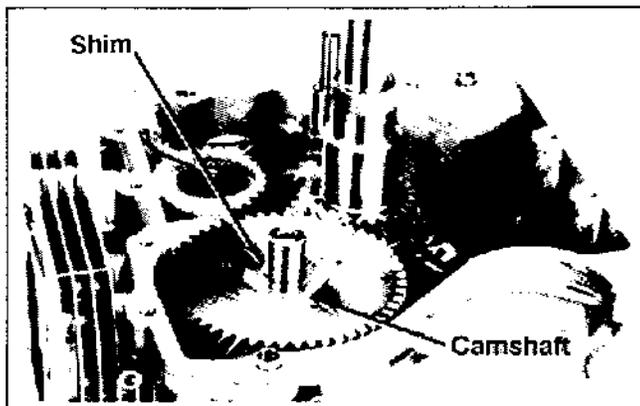

Figure 9-38. Removing Camshaft.
1. Remove the camshaft and shim. See Figure 9-38.